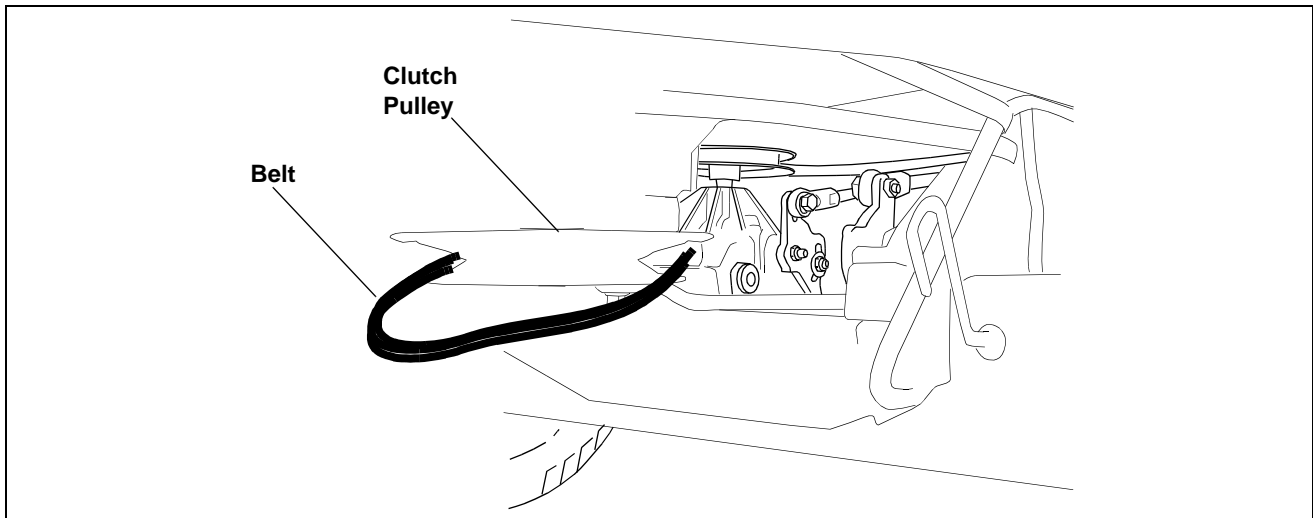

Figure 25
13. Locate the Clutch Pulley. It is located in the rear of the tractor, below the muffler. (See Figure 25)
14. Remove the belt from the Clutch pulley.(See Figure 25)